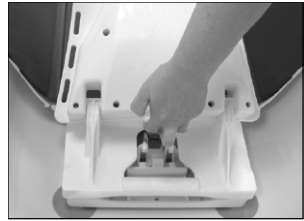

Figure 12
2. Lift the bath lift from the rear of the base (Fig 12), this action will loosen the front suction cups. The bath lift may now be removed from the tub.